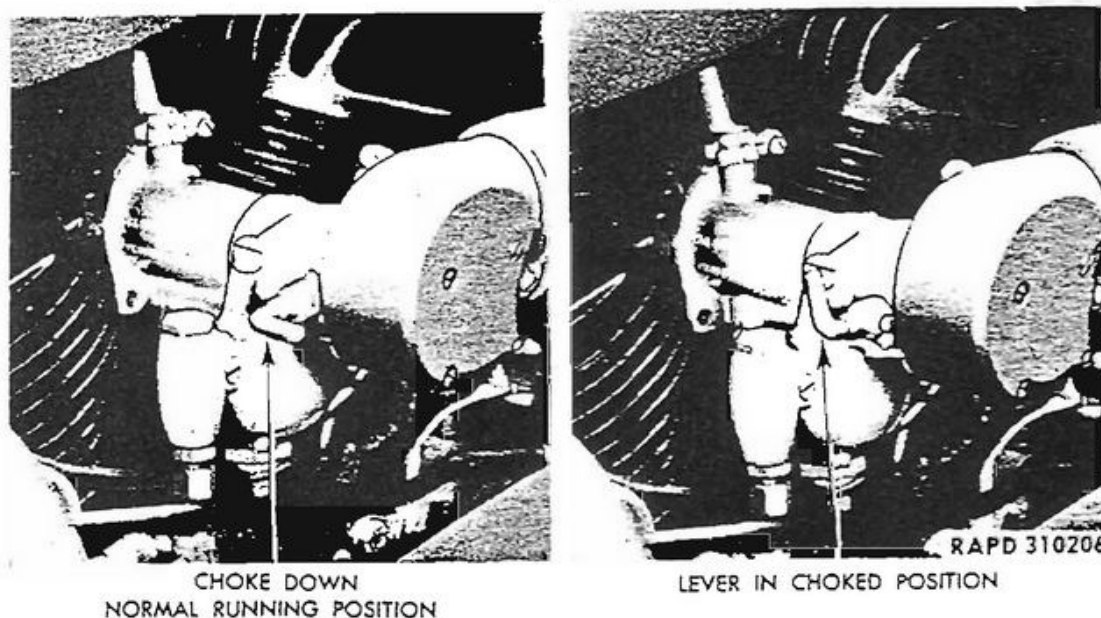

Figure 9—Carburetor Choke Lever Positions
(1) Green light is located on left side of instrument panel. When engine is running, and light is out, it indicates generator is charging.
(2) Red light is located on right side of instrument panel. When engine is running, and light is out, it indicates engine oil is circulating.
m. **Carburetor Choke** (fig. 9). Choke lever is in full prime position when all the way up, and in normal running position when all the way down.